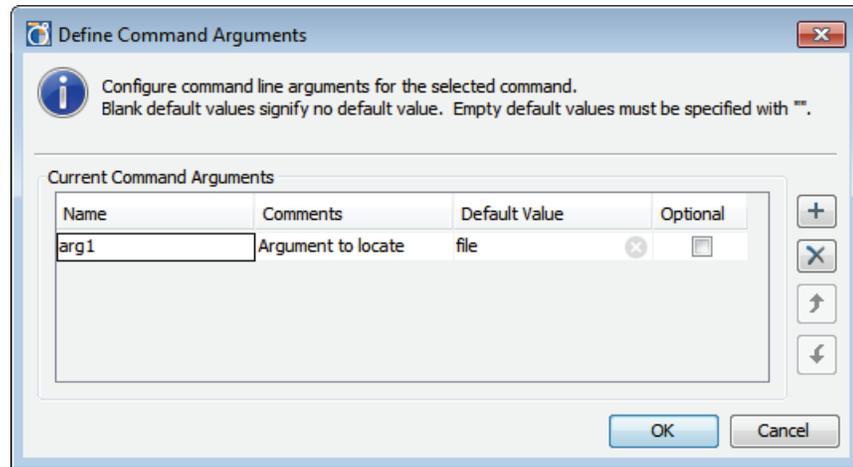

Figure 4-73: Define Arguments
- **Define Args:** Lets you define arguments for the specified command, as seen in Figure 4-73.